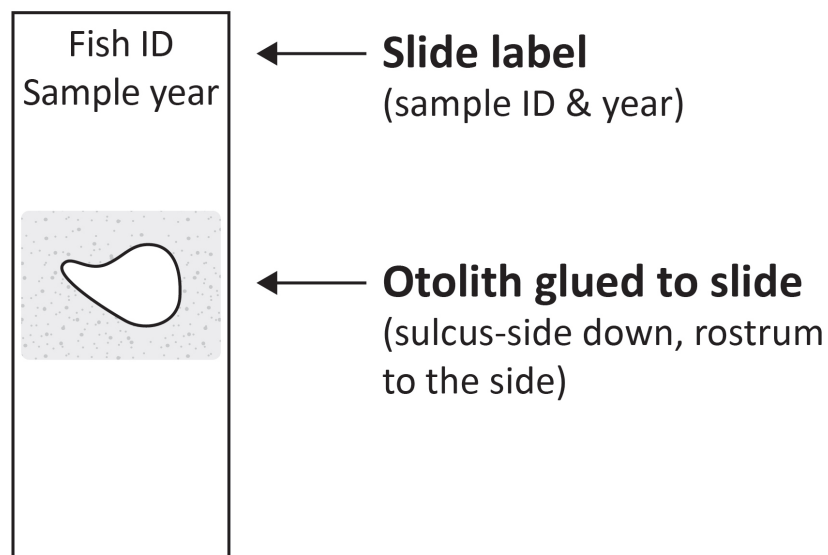

Figure 9. Microscope slide with sample label and otolith adhered to the surface.
1. Use a glass etching tool to label microscope slides with otolith ID and sample year; see Figure 9.
5. Use a dissection probe to apply CB to the heated, prelabeled slides. Do this by dipping the probe into the melted CB and allow the CB to harden on the probe (it will be helpful in step #6 if you shape the CB into a point as it hardens). After the CB has solidified on the tip of the probe, draw a rectangle on the labeled slide (do this while the slide is on the hot plate)—the CB will melt onto the slide as you draw the rectangle; see Figure 9. After you've made a rectangle of melted CB, remove your